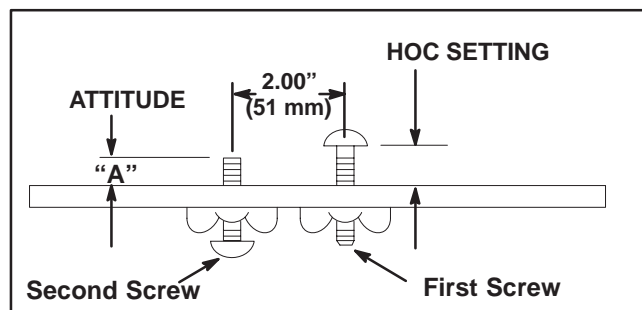

Figure 7
For setting consistent cutting unit attitude, Toro strongly recommends using a two-screw gauge bar, Toro part no. 98-1852 (Fig. 7). The first screw is set for height-of-cut, and the second screw is set for cutting unit attitude. The second screw setting is an easy method of transferring cutting unit attitude to all cutting units on a machine.
1. Using a two-screw gauge bar, Toro Part No. 98-1852, set first screw to desired height-of-cut. This setting is from the bar face to the underside of the screw head (Fig. 7).
2. Using **Table 1**, set the attitude, "A," for the second screw on the gauge bar. This setting is from the bar face to the end of the screw (Fig. 7).